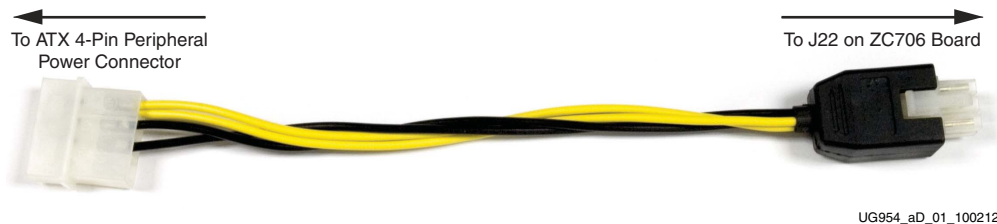

Figure D-1: ATX Power Supply Adapter Cable
When the ZC706 board is used inside a computer chassis (that is, plugged in to the PCIe® slot), power is provided from the ATX power supply 4-pin peripheral connector through the ATX adapter cable shown in Figure D-1 to J22 on the ZC706 board. The Xilinx part number for this cable is 2600304, and is equivalent to Sourcegate Technologies part number AZCBL-WH-1109-RA4. For information on ordering this cable, see [\[Ref 36\]](#).
8. Connect the ATX power supply to the ZC706 board using the ATX power supply adapter cable as shown in Figure D-1: